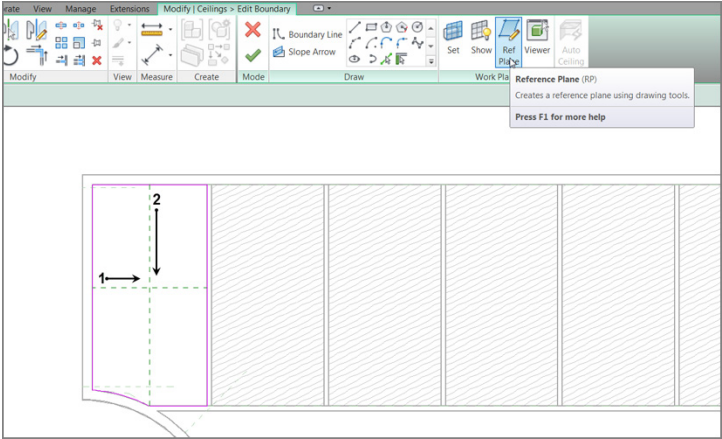

FIGURE 9.24: Drawing two reference planes to create a center intersection
- 4. Click the Ref Plane button on the Work Plane panel, as shown in Figure 9.24.
5. Draw two reference planes (see Figure 9.24). Be sure to snap to the midpoints of the magenta sketch lines.